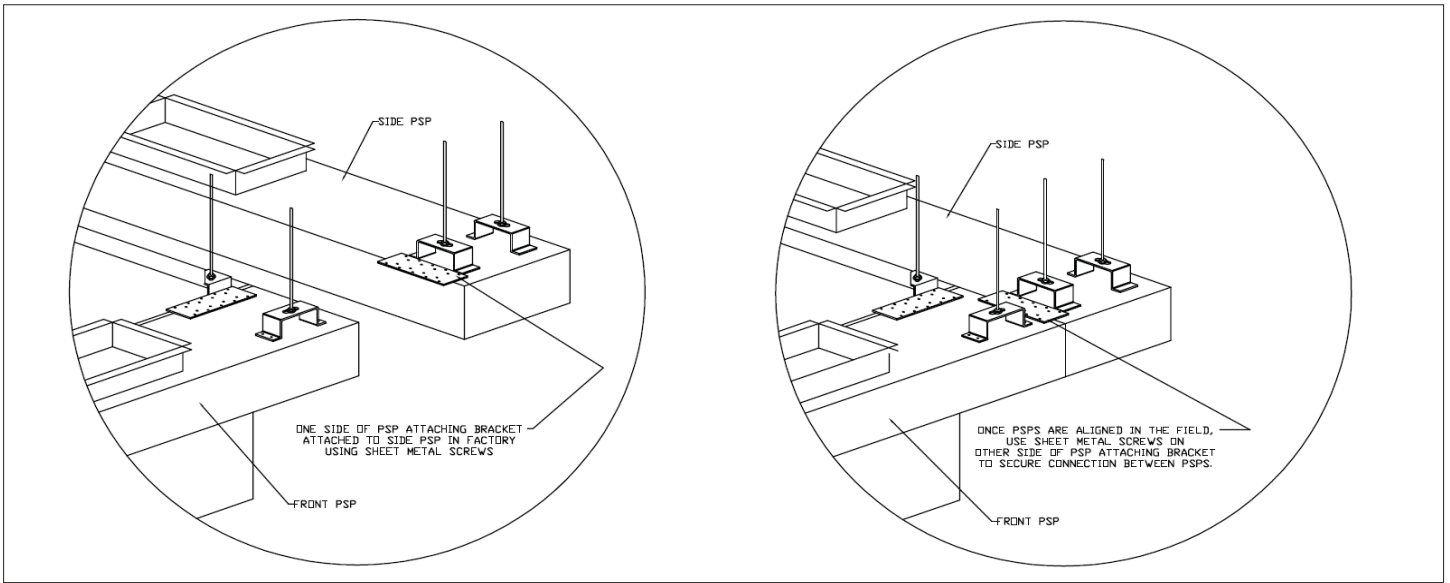

FIGURE 11
10. Where applicable, use sheet metal screws to secure the PSP attaching bracket on top of side PSPs to front PSP. **See Figure 11.**